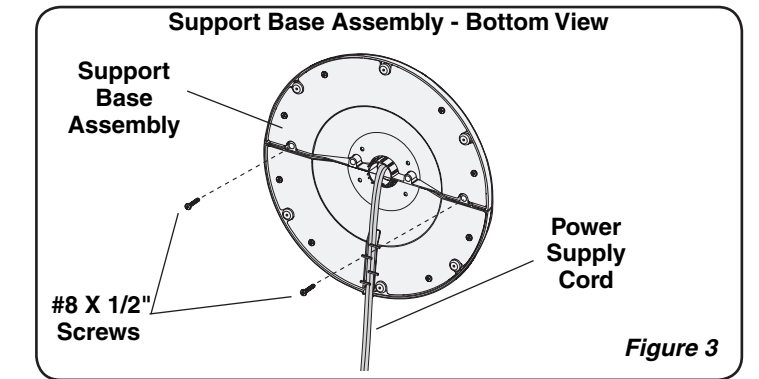

Figure 3
5. Secure the (4) **#8 X 1/2 inch Screws** into the four holes in the bottom of the base. (**Figure 3**)